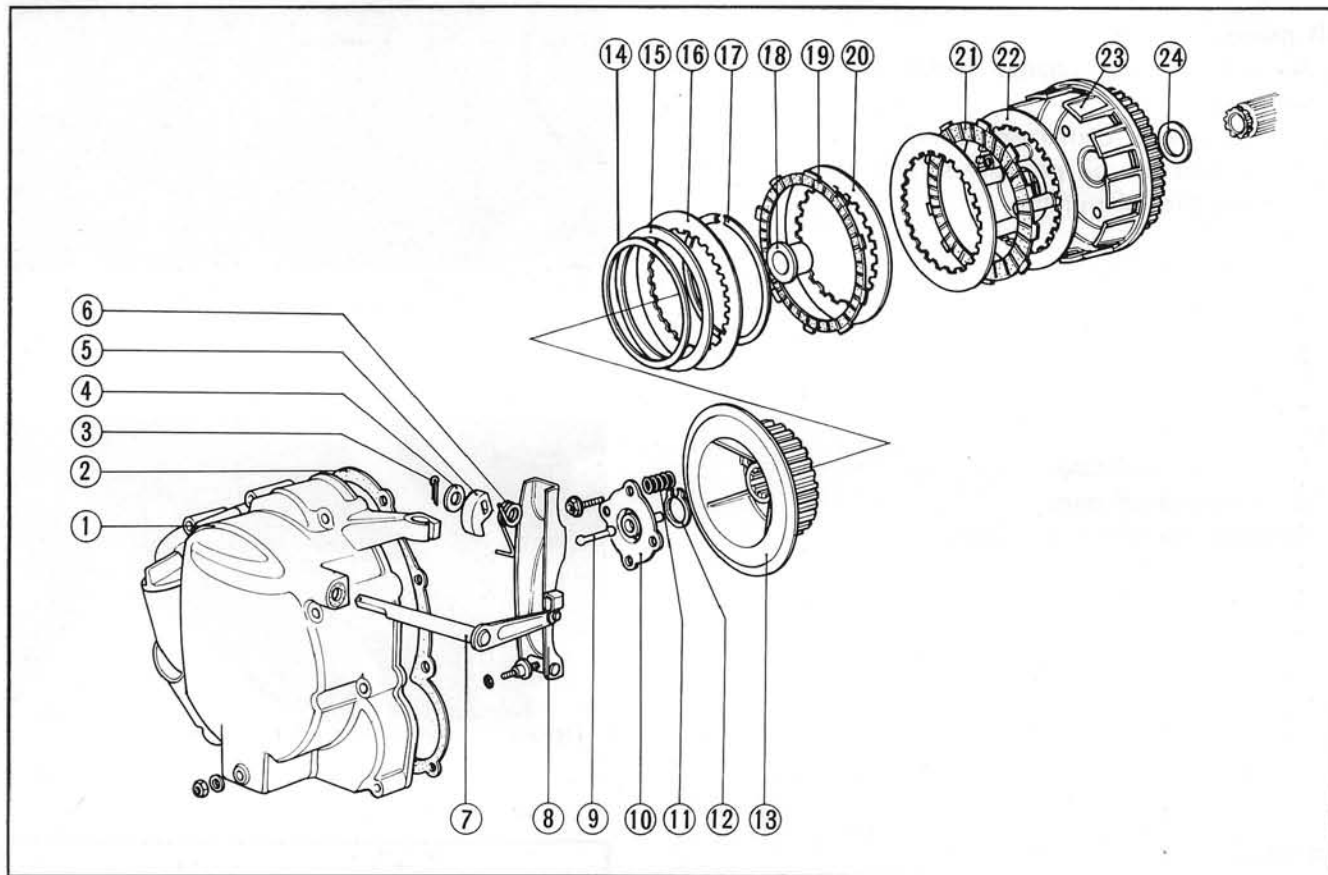

Fig. 3-30
② Clutch disc spring
3. Alternately install the friction discs and clutch plates to the clutch outer, and finally install the 8mm friction disc (see ⑱, Fig. 3-30).